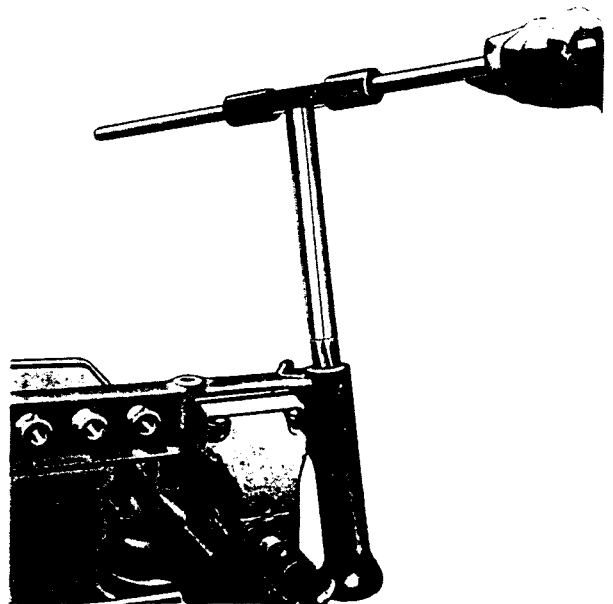

FIG. 7
4. Ream bushes as shown in Fig. 7.